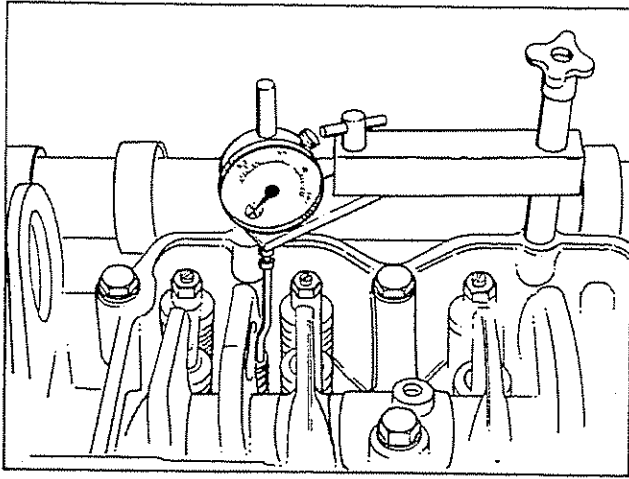

Fig. 2-43, (OM1051L). Extension in contact with plunger extension is secure in the indicator stem and not against the rocker lever.
2. Set up ST-1170 Indicator Support with the indicator extension on the injector plunger top at No. 3 cylinder, Fig. 2-43. Make sure the indicator